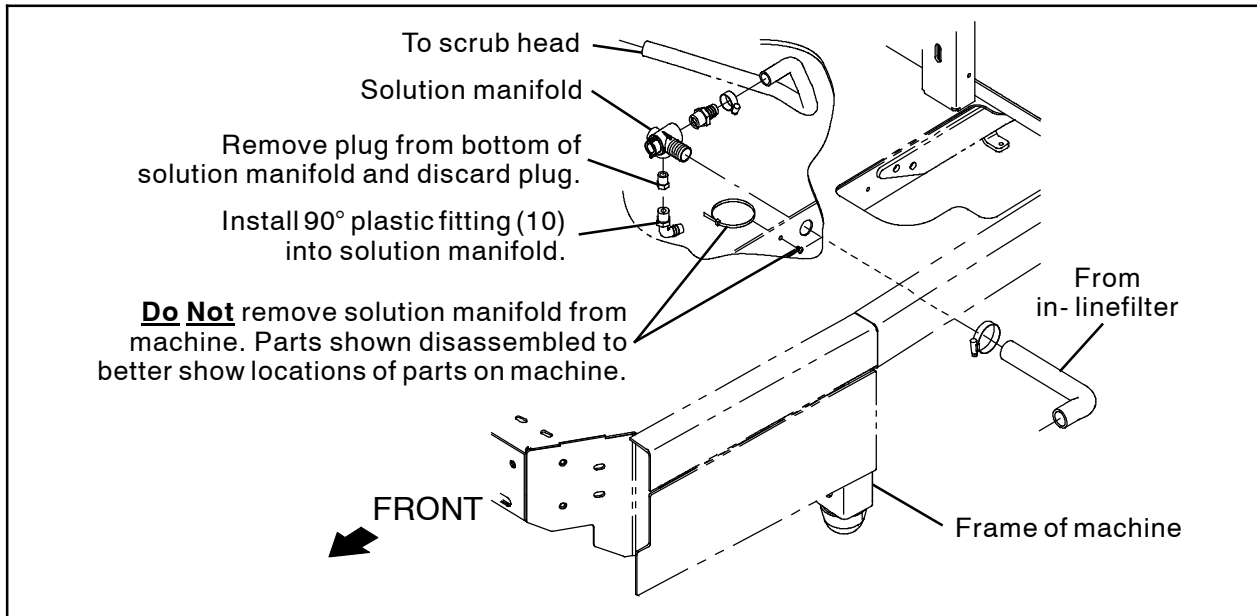
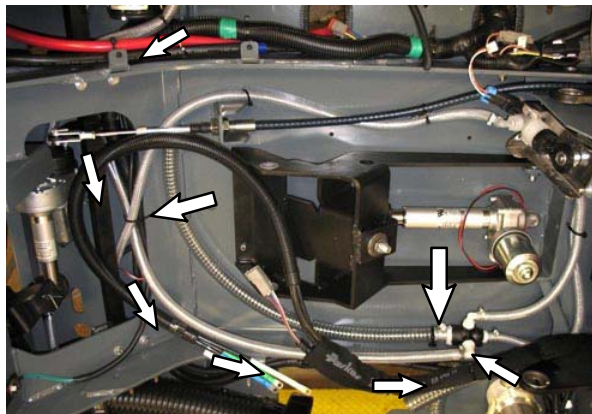
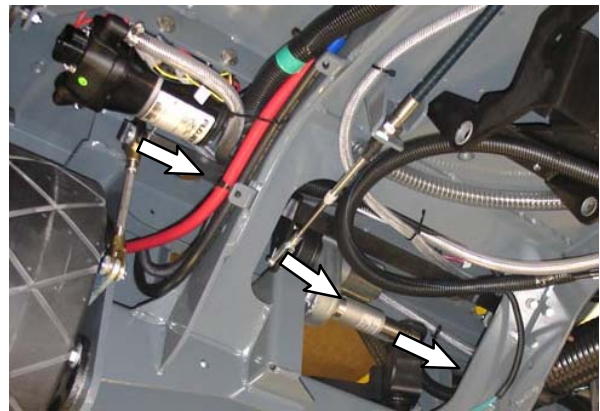
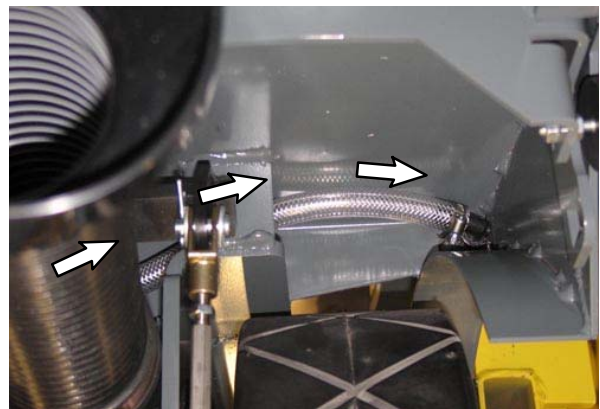

FIG. 4
FIG. 5
FIG. 6
FIG. 7
9. Remove the plug from the bottom of the solution manifold. Discard the plug. (Fig. 4)
10. Install the 90° plastic fitting (10) into the solution manifold. (Fig. 4)
11. Route the 50 in. (1270 mm) PVC hose (11) from the solution pump (1), through the frame of the machine, and to the solution manifold. (Fig. 4 / Fig. 5)
12. Use a hose clamp (12) to secure the 50 in. (1270 mm) PVC hose (11) to the 90° plastic fitting (10) into the solution manifold. (Fig. 4 / Fig. 5)
13. Use a cable tie (13) to secure the 50 in. (1270 mm) PVC hose (11) away from the scrub head and any other moving parts. (Fig. 5)
14. Install the 90° plastic fitting (14) onto the end of the 42 in. (1067 mm) PVC hose (11).
15. Route the 42 in. (1067 mm) PVC hose (11) from the solution pump (1), through the frame of the machine, and through the hole in the frame of the machine. (Fig. 6 / Fig. 7)